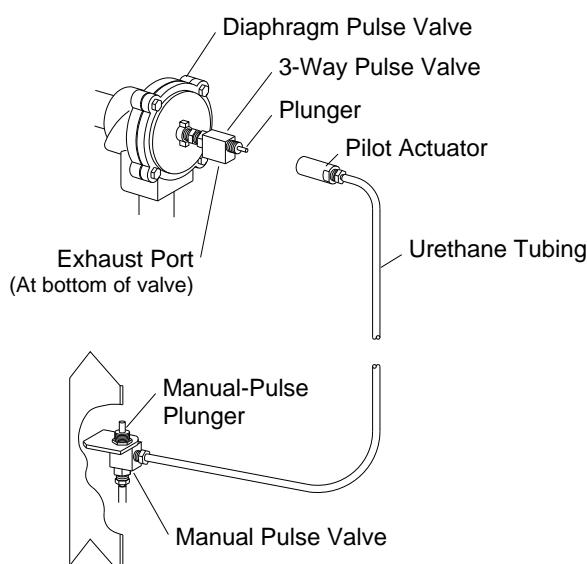

Figure 25
8.1.4 Refer to Figure 25 and check the diaphragm pulse valve and actuator assembly as follows.